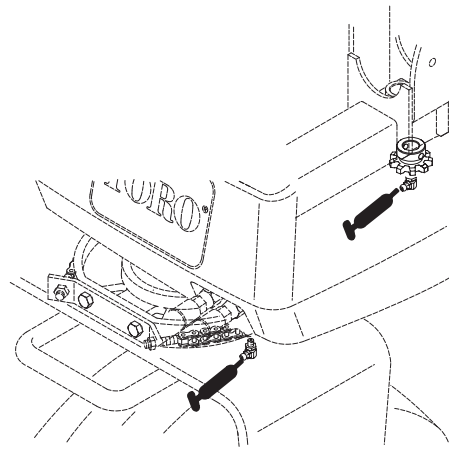

Figure 16
- Steering chain sprocket shaft (Fig. 16)